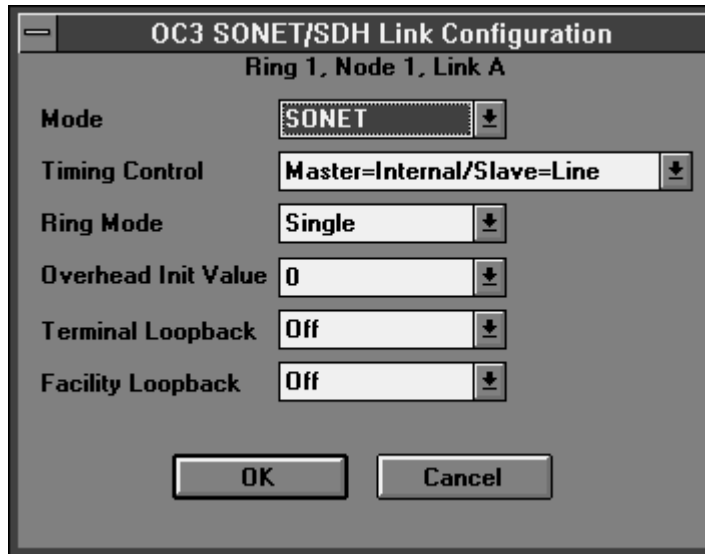

Figure 3-31. OC3 SONET/SDH Link Configuration
2. Select Configure from the Tools menu or click on the Configure icon. The OC3 SONET/SDH Link Configuration screen is displayed (refer to Figure 3-31).